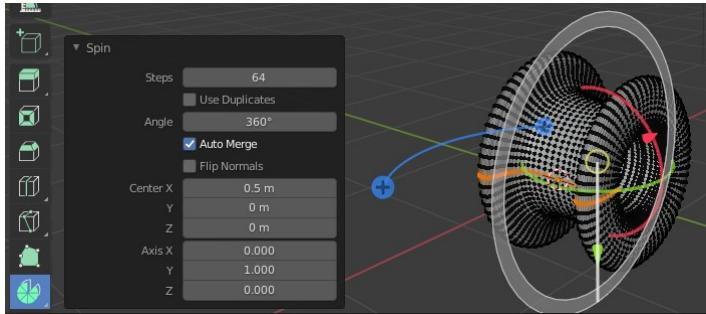

Figure 4-6 Spinning a ring from a mesh
For this exercise we want the first behavior but as an example of the second: if you had converted the Bézier curve object from the first exercise in Chapter 3 into a Mesh, you could have used the Spin Tool to make it into a ring as shown in Figure 4-6.
2. First create some duplicates by dragging on one of the blue plus buttons at either end of the blue arc (visible in the center of Figure 4-6). It doesn't matter how far you drag it because you will set specific values afterwards.